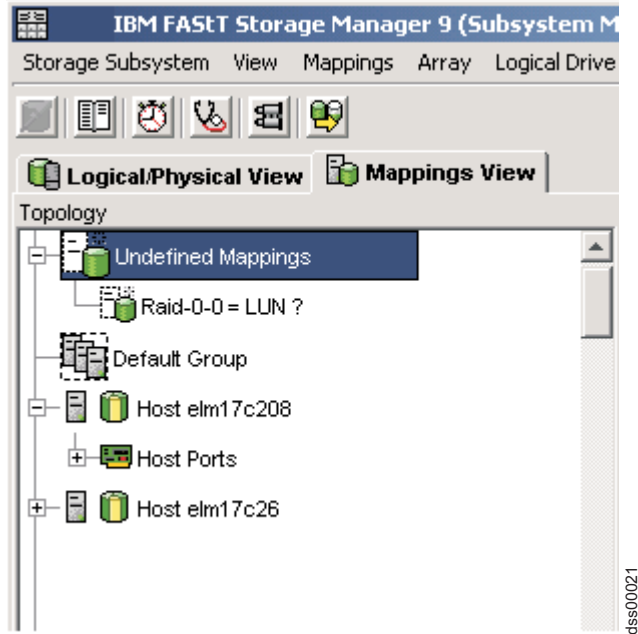

Figure 9. Undefined FlashCopy disk
1. In the SMclient, open the Mappings view of the Subsystem Management window, as shown in Figure 9 on page 31. The newly created FlashCopy logical drive displays in the undefined mapping section.